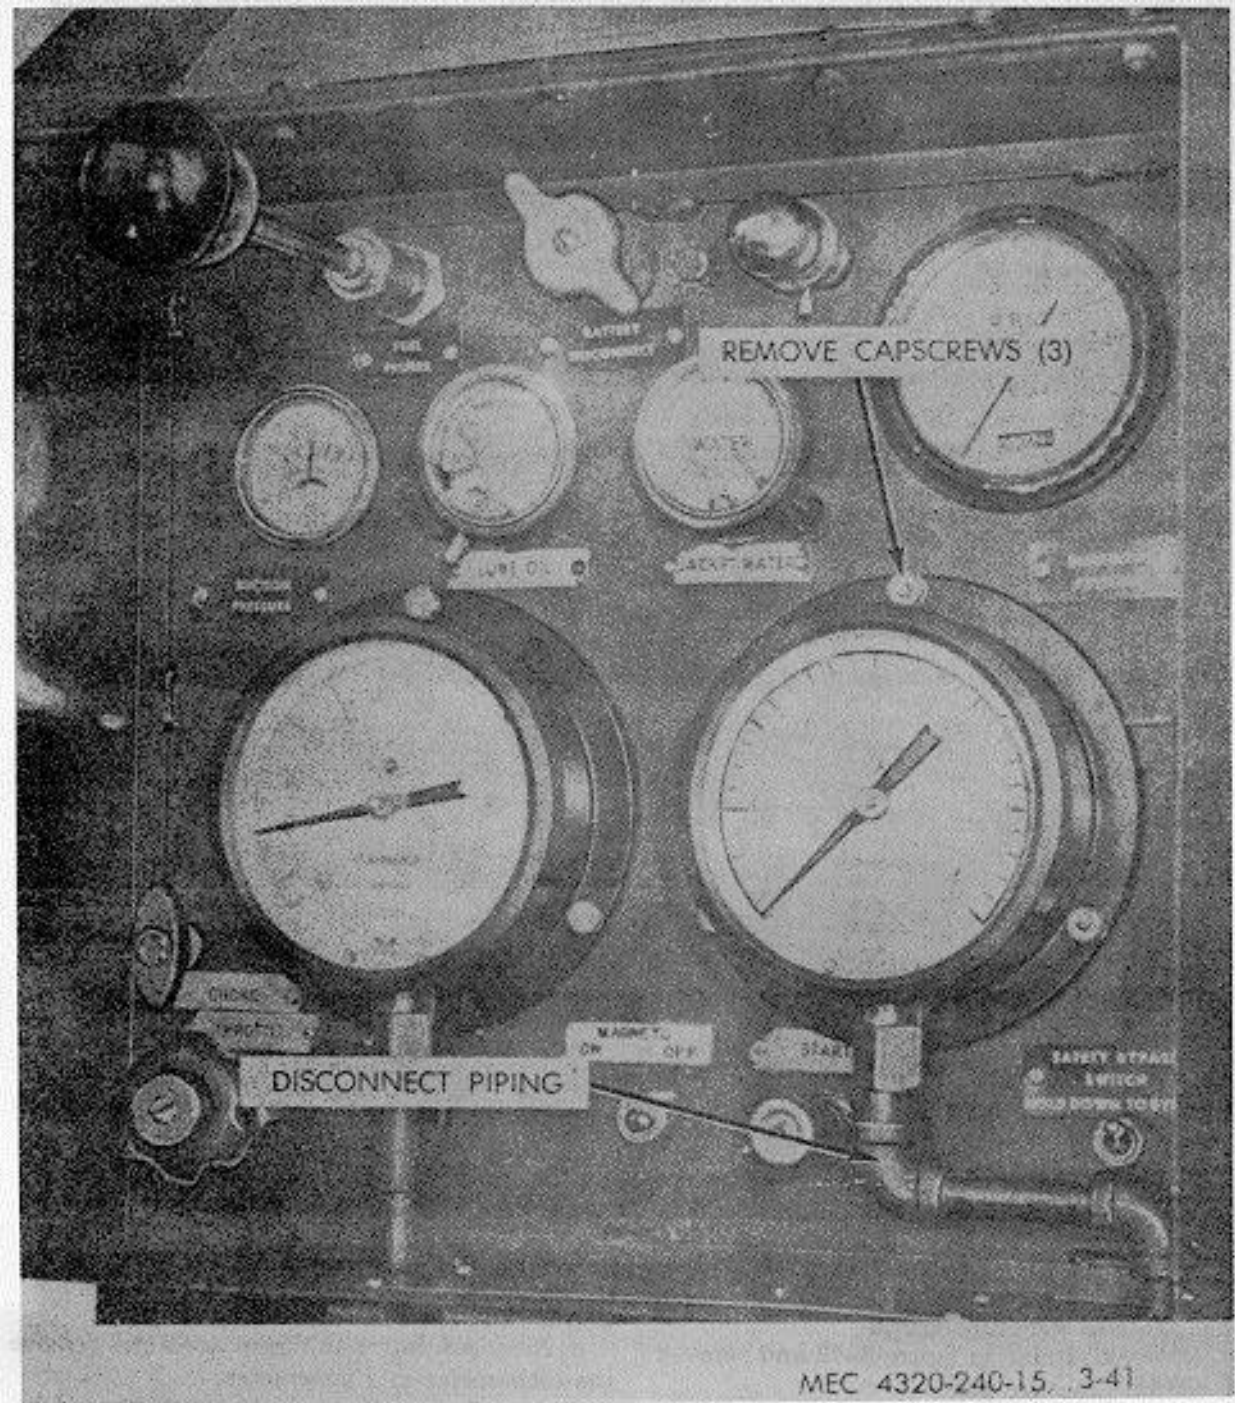

Figure 3-41. Discharge pressure gage removal and installation.
a. *Removal.* Refer to figure 3-41 and remove the discharge pressure gage.
b. *Installation.* Refer to figure 3-41 and install the discharge pressure gage.